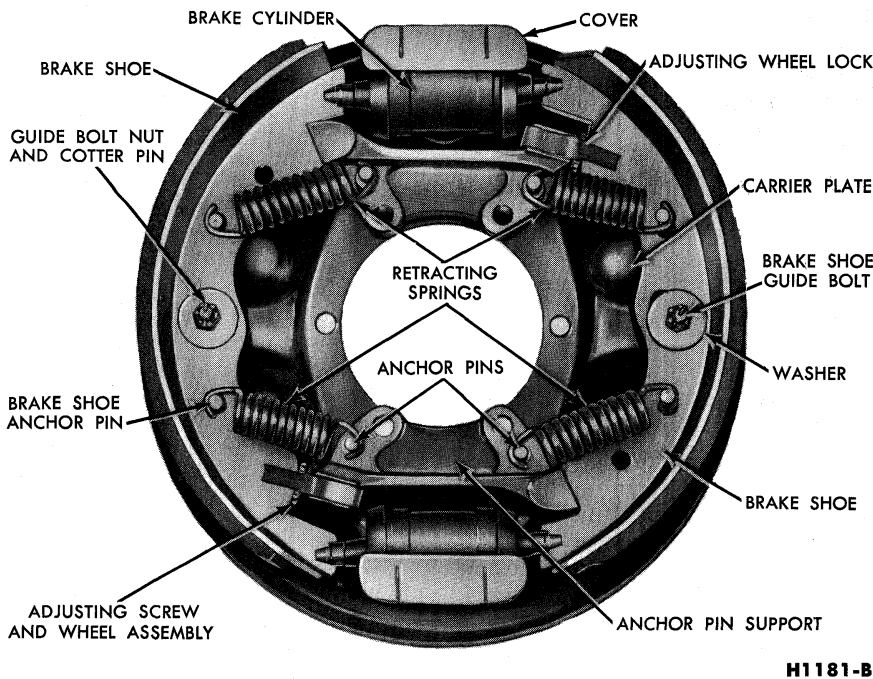

FIG. 15—Two-Cylinder Brake—Equal Length Springs
3. On a unit equipped with retracting springs of equal lengths (Fig. 15), remove the brake shoes as follows:
b. Place the brake shoe over the two retracting spring anchor pins, insert the ends in the brake cylinder links, and install the shoe guide bolt, washer, and nut (Fig. 15). Finger tighten the nut, then back off one full turn, and install the cotter pin.